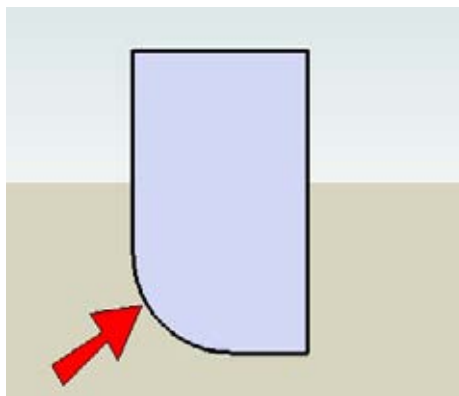

Figure 2-51
1. To start the cup, you need to make the face that will be extruded along the circle. This is actually half of the cup’s cross-section. In Front view, make a rectangle with an arc cutout at one corner (Figure 2-51).